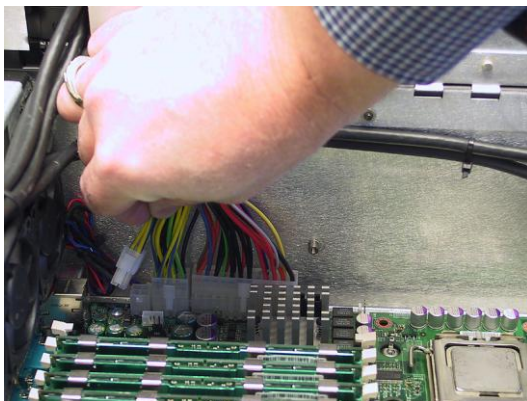

Figure 4-90
- 3) Disconnect the EPS12V 8-pin (4 x 2) power connector from the motherboard. Pull the connector up while using a flat-blade screwdriver to push the top of the release catch (facing the interior of the chassis) into the body of the connector (Figures 4-90 and 4-91).